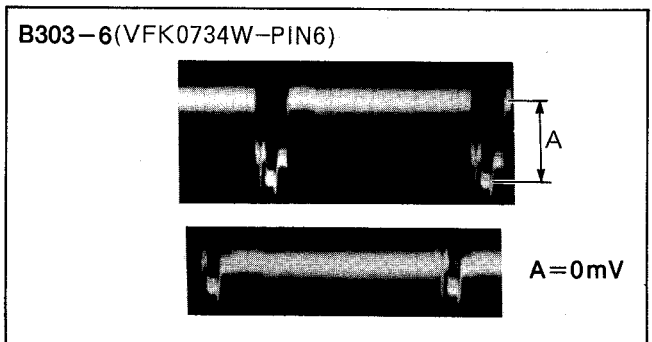

Fig. C14
- * Push [INC] or [DEC] keys until the "A" level is minimized, as shown in Fig.C14.